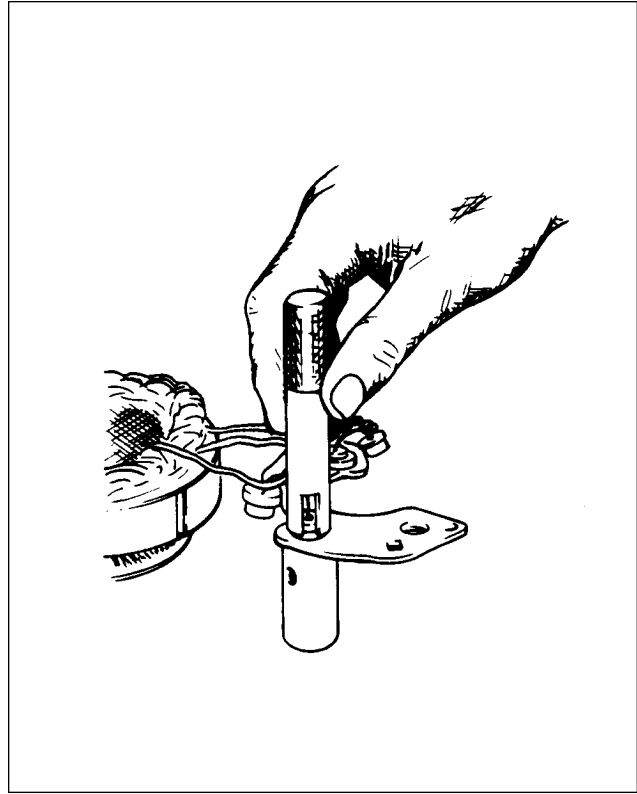

Figure 11-31. Installation of Rectifier
- b. Carefully install the rectifiers in the slip ring end head or rectifier mounting plate by supporting the unit and using the special tools illustrated in Figure 11-31.